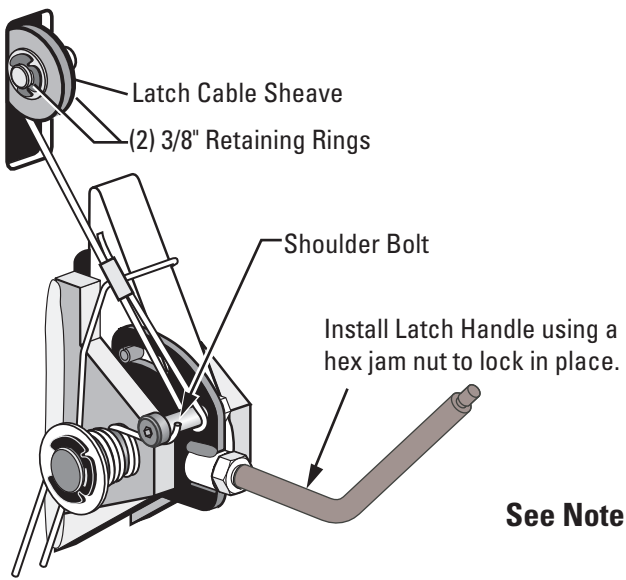
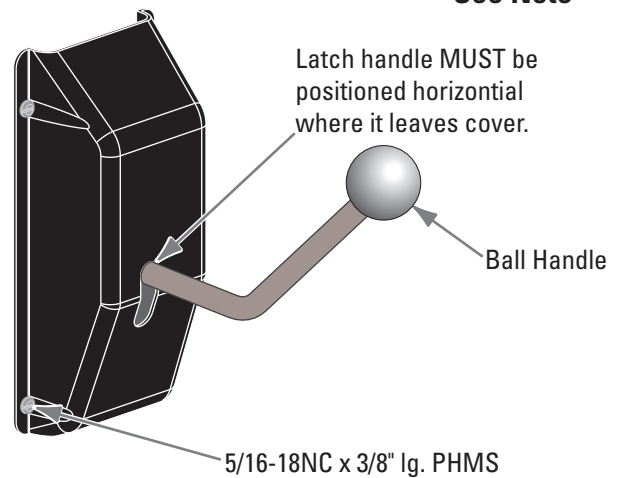

Figure 13
Figure 16
- A) Install latch cable sheave and retaining rings in upper slot of power unit column as shown, Fig. 13.
- B) Slip loop end of cable over end of shoulder screw on right side latch control plate, Fig. 13.
- C) Feed the other end of the cable through the latch cable sheave slot making sure that the cable is running under the bottom side of the latch cable sheave and inside the right column, Fig. 13.
- J) At this point you **MUST** install the latch handle, jam nut, and right column latch cover Fig. 13 & Fig. 16. Install latch handle ball, Fig. 16.
NOTE Handle can be installed in a downward orientation to reduce the distance to reach the handle, Figures 13, 14, and 16.